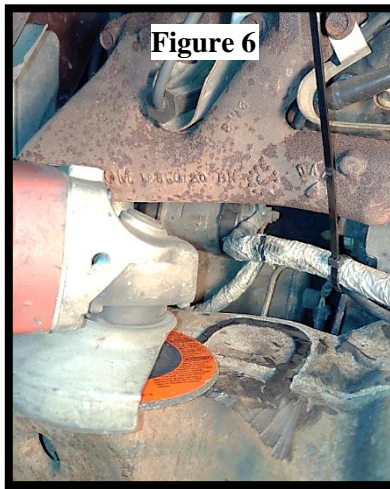

Figure 6
22. Grind any remaining portion of the arm mounts flush with the frame **(Figures 6 & 7)**